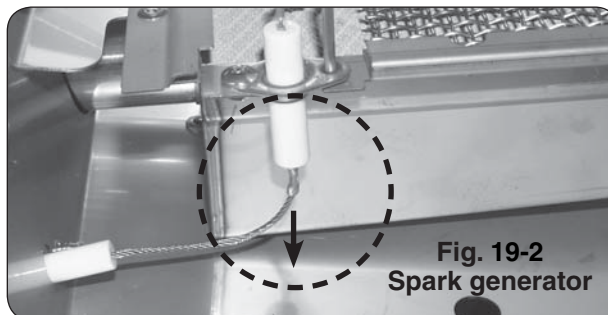

Fig. 19-2
3. Disconnect the ignitor wire from the bottom of the electrode assembly on the infrared burner (see Fig. 19-2).